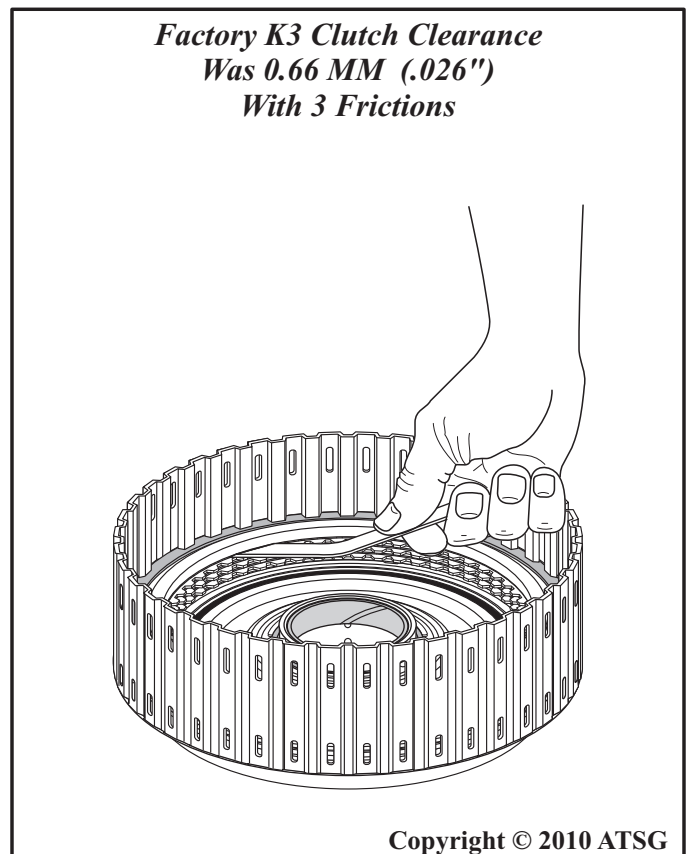

Figure 110
12. Measure the K3 clutch clearance with a feeler gauge between the backing plate and friction plate, as shown in Figure 110.
Note: There are no factory clutch clearance specifications available, but the clearances were the "traditional" .010" per friction plate through-out this unit. Refer to Figure 110 for K3 clutch clearance with 3 frictions.